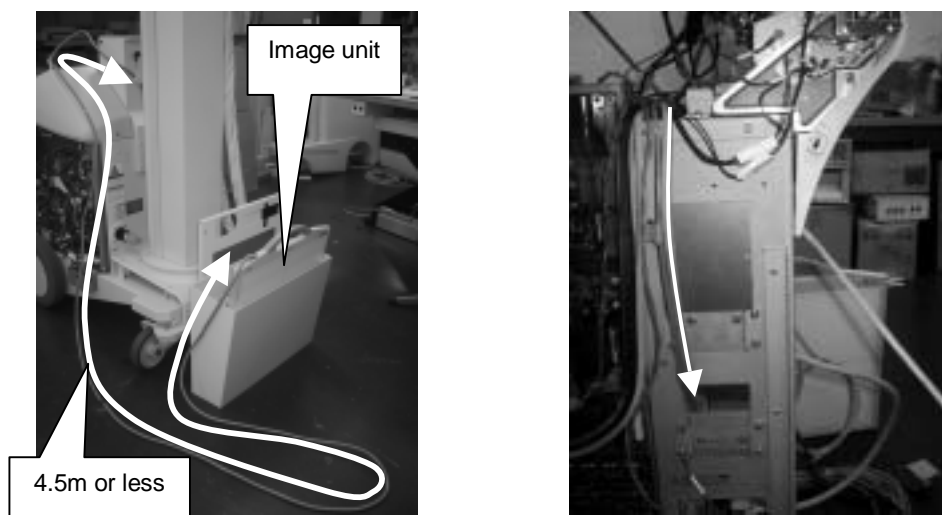

Fig. 4-1 Cable processing
- Fix the sensor cable so that the length between the cover and the FPD is 4.5m or less. (Refer to Fig. 4-1)
- Fix the sensor cable as Fig. 4-1.
- Fix the X-ray I/F cable just like fixing the CXDI-50G cable described in 3. (Refer to Fig. 4-1)